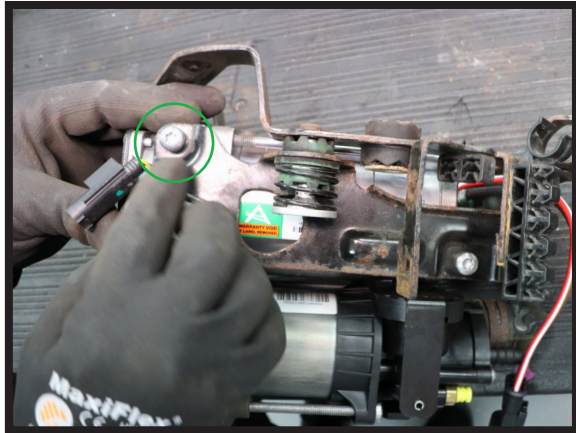

FIGURE 27
3. USE THE PROVIDED FOUR (4) SCREWS TO ATTACH THE NEW COMPRESSOR TO THE COMPRESSOR BRACKET ASSEMBLY. (FIGURES 27, 28, 29)